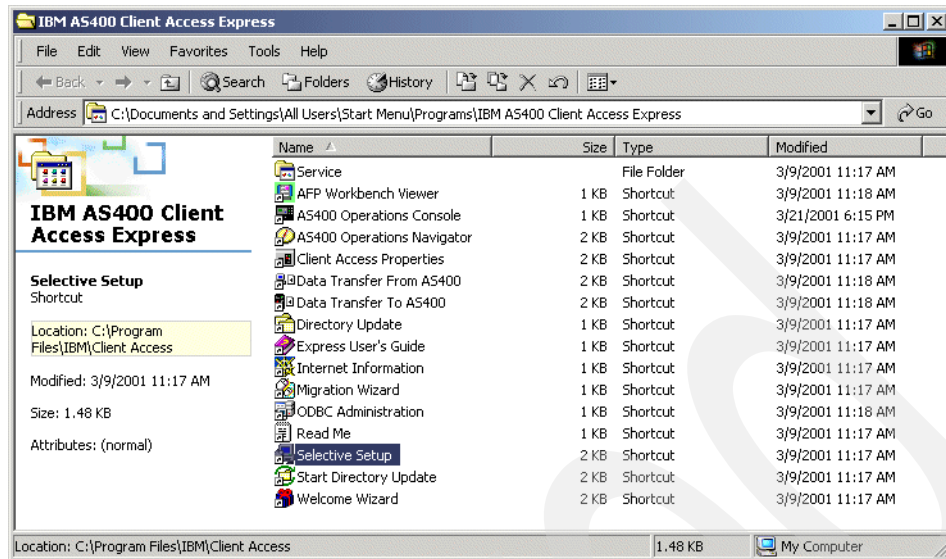

Figure 139. Client Access Express window
1. Double-click the **Client Access Express** icon on your workspace to start. Figure 139 shows the Client Access Express window.
The Client Access Express Window should appear like the example in Figure 139.